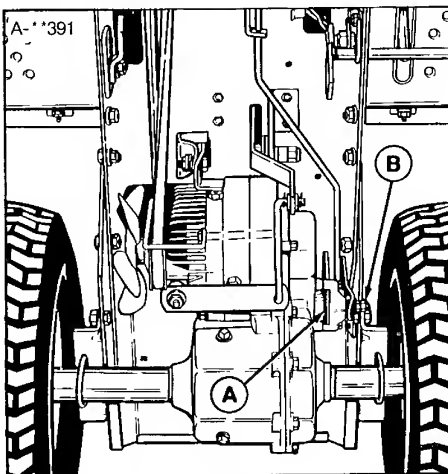

Figure 27. Brake Adjustment
2. Put a feeler gauge just behind brake disc (A, figure 27). Clearance between disc and pad should be 0.010 inch (0.254 mm). If not, loosen the outer adjustment nut (B). Tighten or loosen the inner nut to achieve correct dimension then tighten the outer nut.